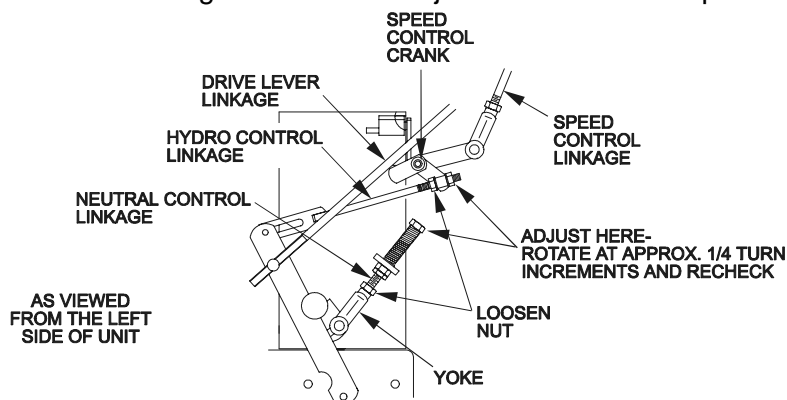
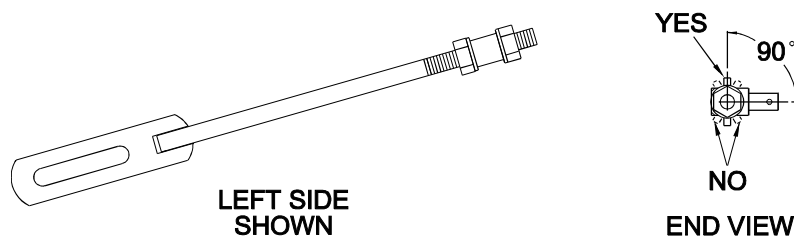

FIGURE 13
FIGURE 14
4. Loosen the nut against the neutral control linkage yoke (See Figure 13).
2. Loosen the front nut on **left** hydro control linkage as shown in Figure 13. Turn the rear control linkage adjusting nut counter-clockwise until wheel rotates forward. Turn the rear nut of left control link clockwise 1/4 of a turn at a time, stopping to move the speed control forward and back to neutral, until left wheel stops rotating forward. Turn the rear nut an additional 1/2 turn and tighten the front nut making sure not to put a bind on the linkage. Make sure flat part of linkage is perpendicular to pin part of swivel (See Figure 14).